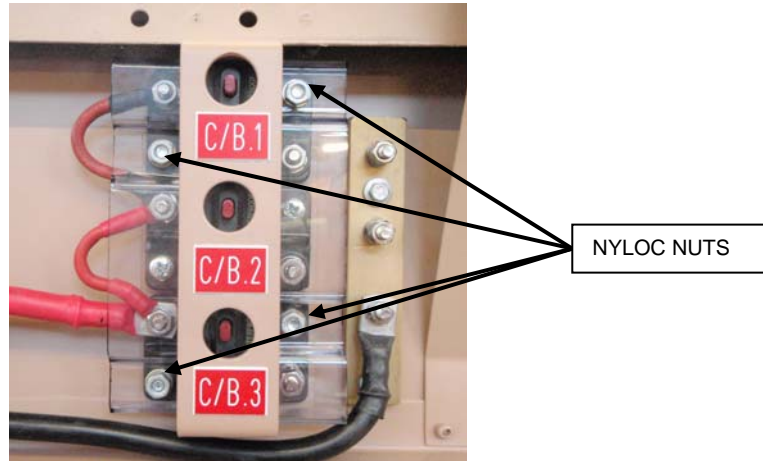

Figure 2 Cover Installed
- g. Secure the perspex cover with the 6 mm plain washer and new Nyloc nuts (Figure 2).